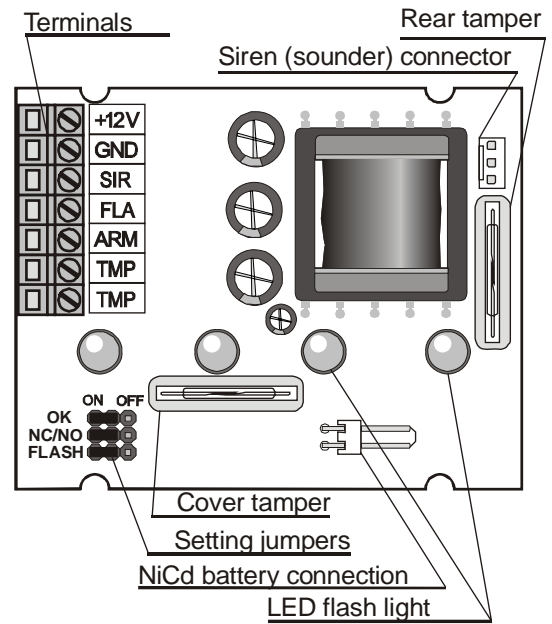

Fig. 1 : Electronic circuit board front scheme
**Important:** An activation of the siren with a disconnected sounder (see Fig. 1) does not cause any damage to the electronic circuits. Instead, a high voltage is produced on the sounder connector.